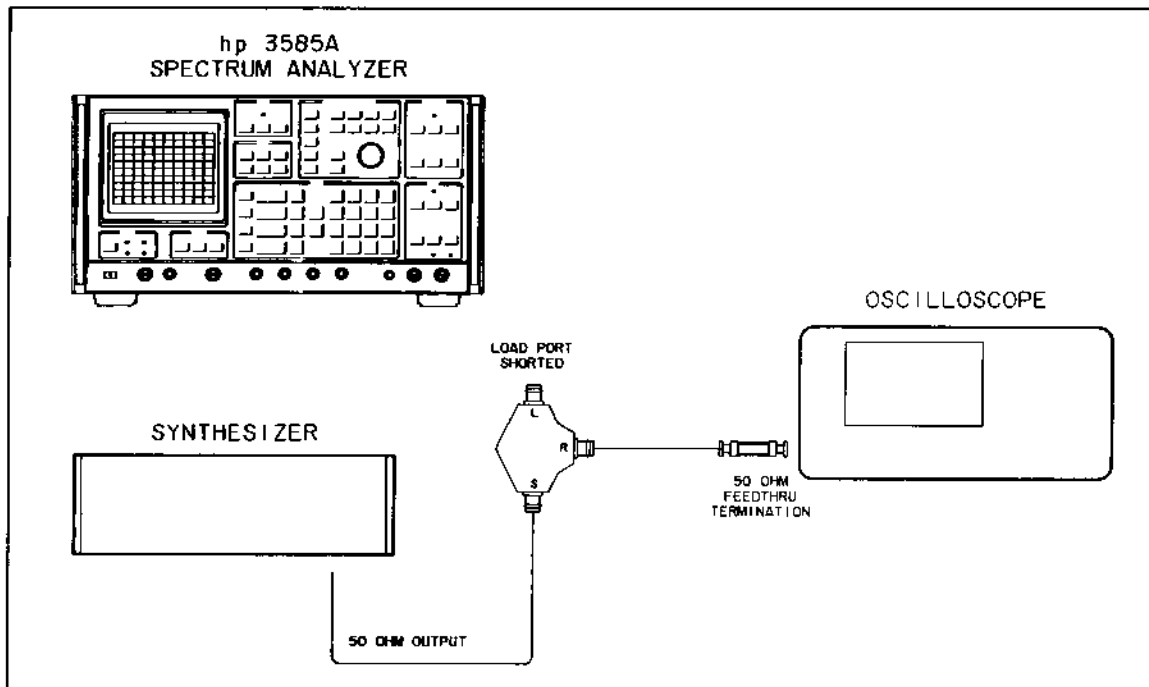

Figure 4-1. 50 Ω Return Loss Test (Operational Verification)
- d. Connect the equipment as shown in Figure 4-1. 50 Ω Return Loss Test.